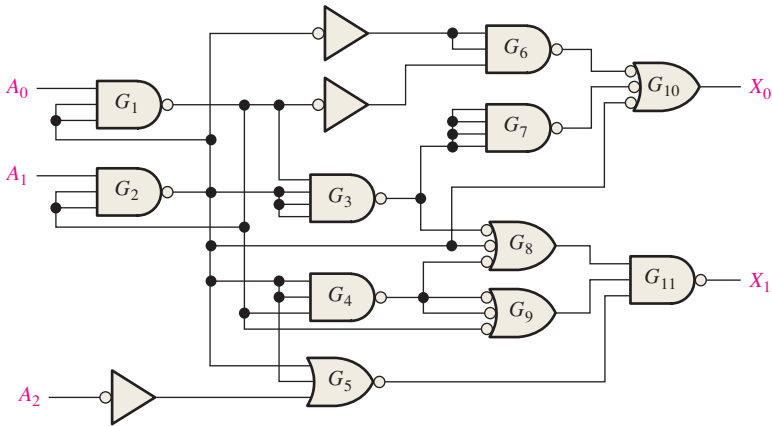

FIGURE 15-51
11. A standard TTL gate has a fan-out of 10 unit loads. Are any of the gates in Figure 15-51 overloaded? If so, which ones?